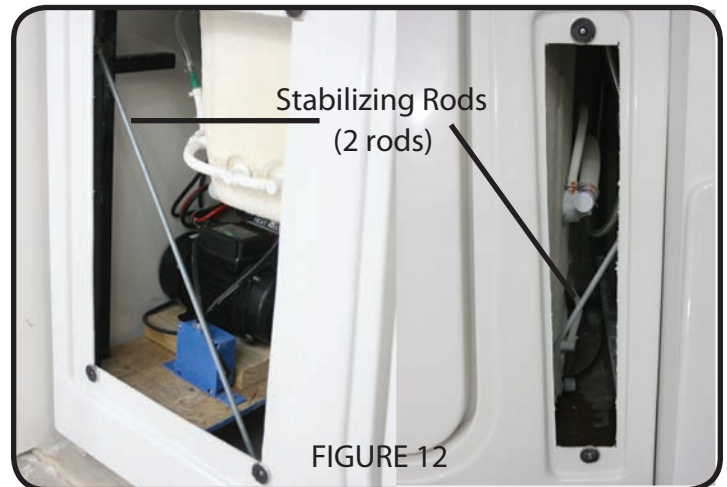

FIGURE 12
4. To adjust the door opening first begin by loosening the stabilizing rods .375" nuts. Figures 12 & 13 Loosen all 8 nuts approximately .5". Do not take the rods off. Just make sure the rods are not binding the tub's metal frame.